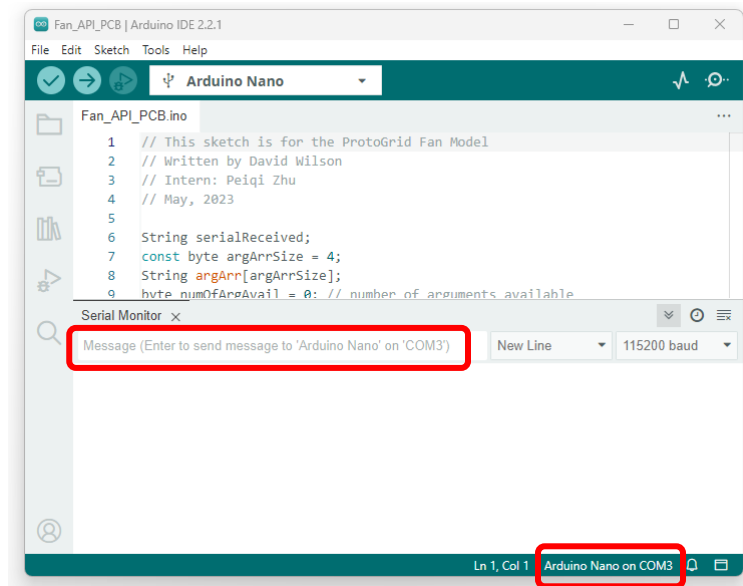
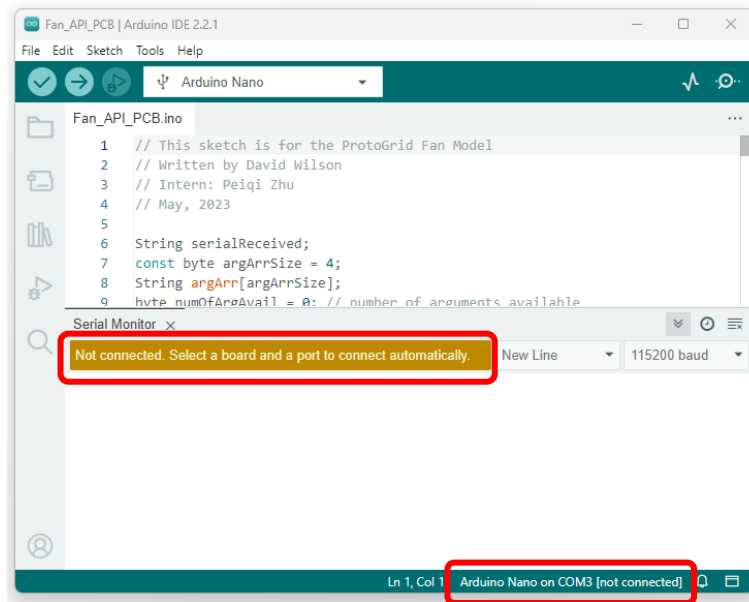
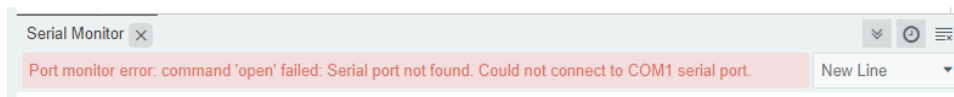

Figure 1.8 Successful serial port connection
Figure 1.9 Unsuccessful serial port connection
Figure 1.10 Unsuccessful serial port connection due to another program
- Use the shortcut keys **Ctrl+Shift+M** to open the serial monitor. If the module is connected to the Arduino IDE successfully, the serial monitor will display the board name and the COM port number as shown in *Figure 1.8*. Otherwise, it will display a different message as shown in *Figure 1.9*. Try reconnecting the module to resolve the problem. If you have already established serial port connection using another program such as MATLAB or another Arduino IDE window, you will see the message shown in *Figure 1.10*. Simply close the other program to resolve the problem.